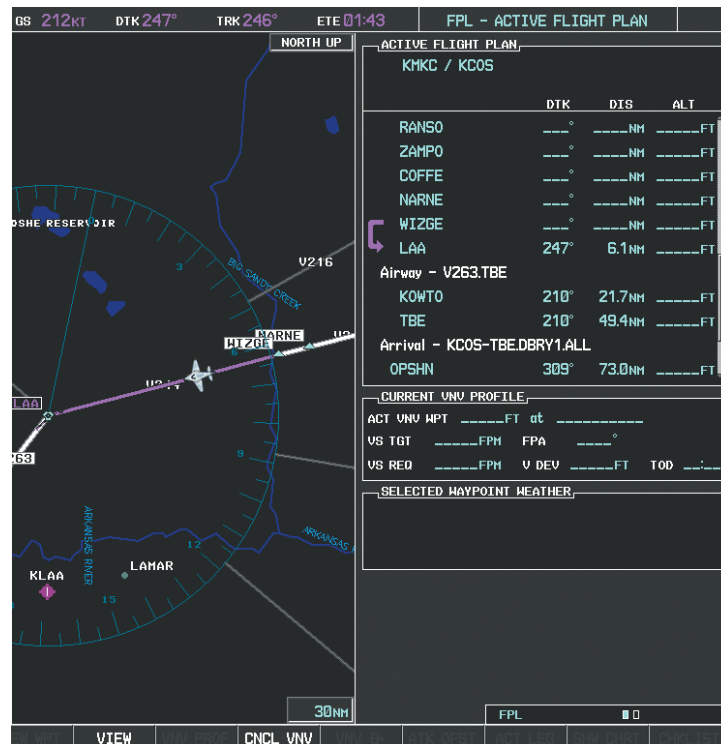

Figure 5-120 WIZGE to LAA Leg Active
10) At Lamar VOR (LAA) V263 is intercepted. See Figure 5-120.